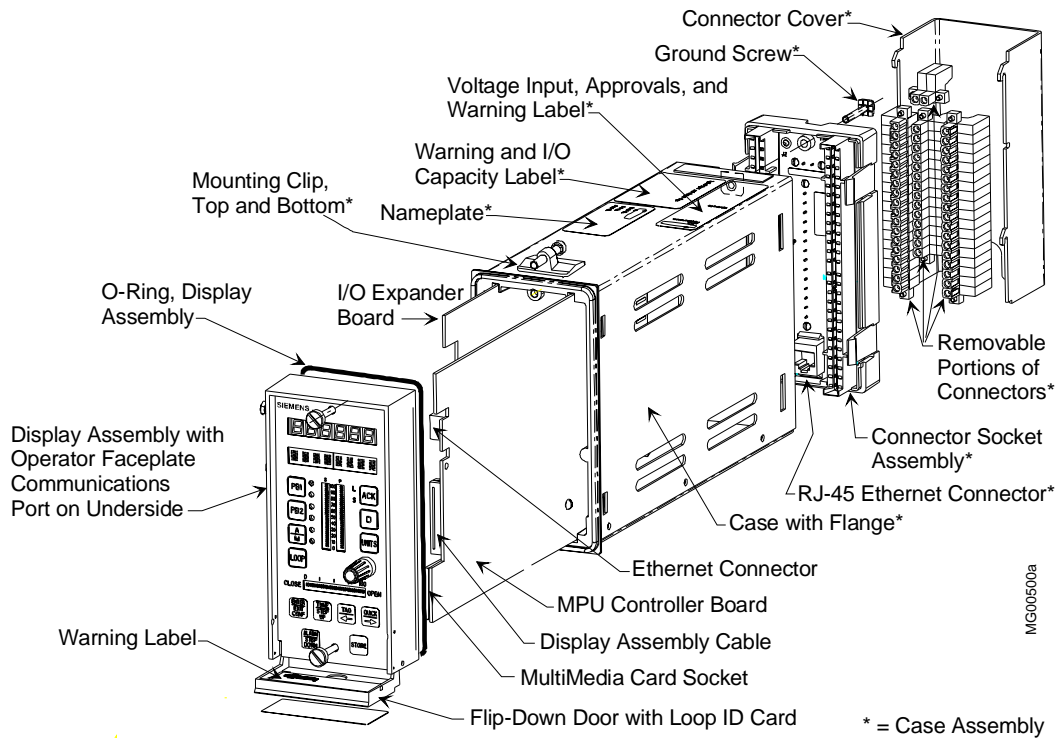

Figure 10-1 Siemens 353 Exploded View, Design Level B
Controller maintenance requirements are minimal. Activities such as cleaning and visual inspections should be performed at regular intervals. The severity of the controller's operating environment will determine the frequency of maintenance. Additional topics including troubleshooting, assembly replacement, and software compatibility are also covered. Figure 10-1 shows an exploded view of the controller.
2. Loosen the Display Assembly's two faceplate screws. One screw is above the numeric display, the other behind the flip-down door at the bottom of the faceplate. See Figure 10-1 as needed.
In the event a malfunction within the controller is suspected, troubleshooting by assembly substitution is recommended to get the controller back on-line in the shortest possible time. The plug-in design of controller assemblies permits rapid removal and replacement to isolate a defect. Figure 10-1 shows controller assemblies.